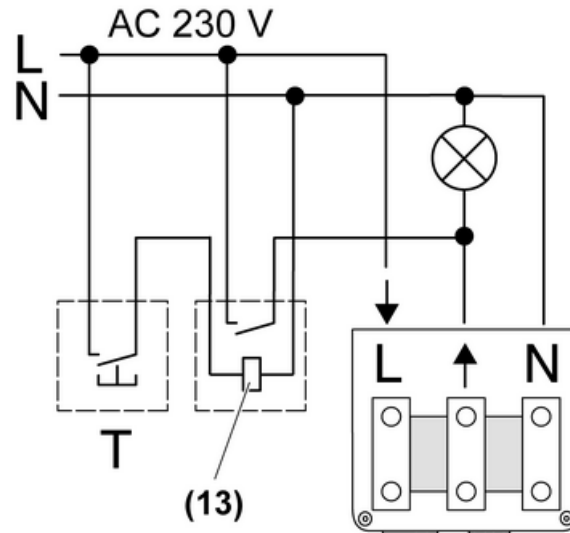

Figure 12: Connection in parallel with automatic staircase light switch / impulse relay
The lighting is switched on either by the automatic staircase light switch (13) or by the power pack in combination with system sensors (Figure 12).